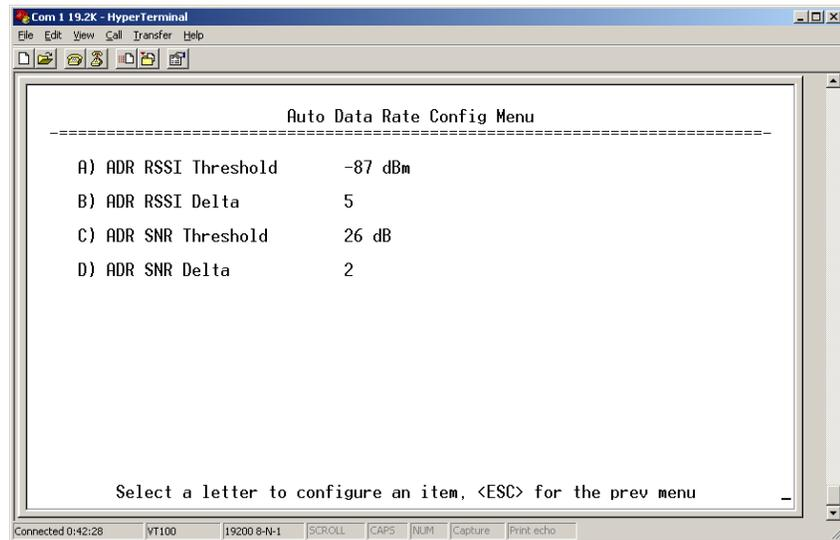

Figure 2-28. Auto Data Rate Submenu
- **Auto Data Rate Configuration**—This selection brings up a submenu as shown in Figure 2-28. For the settings in this submenu to have any effect, the Data Rate menu item (Page 52) must be set to **AUTO**.
Using the example of Figure 2-28, assume the current RSSI is -87 dBm. An RSSI reduction of more than 5 dBm (more negative RSSI number) would cause a data rate change from high speed to standard speed. Once the data speed has changed to standard speed, an RSSI *increase* to the level of -82 dBm would be required for the radio to switch back to high speed. This provides an operational “window” or hysteresis range over which the data speed stays constant despite minor changes in signal strength.
The SNR (signal-to-noise ratio) threshold and delta operate in the same manner described above, with the exception that the units are expressed in relative dB instead of dBm. In the example of Figure 2-28, a drop of 2 dB from a level of 26 dB would result in a data rate change from high speed to standard speed. For the radio to return to high speed, the SNR would need to increase to 28 dB. (*See Glossary for definition of SNR.*)
Figure 2-28 shows the default values for RSSI and SNR parameters but these may be changed to optimize performance in your environment. In properly designed systems, experience has shown that RSSI levels between -50 dBm and -90 dBm provide reliable operation, provided the signal-to-noise ratio is 17 dB or above. Tailoring the thresholds with these baseline values in mind, can provide improved performance in your system.